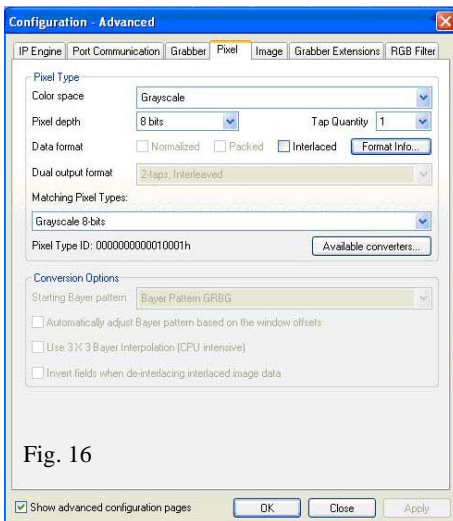

Fig. 16
- Select “Pixel” Tab. The factory default of B/W camera output is 8-bit. So select 8-bit (default). And click “OK”. (Fig. 16)